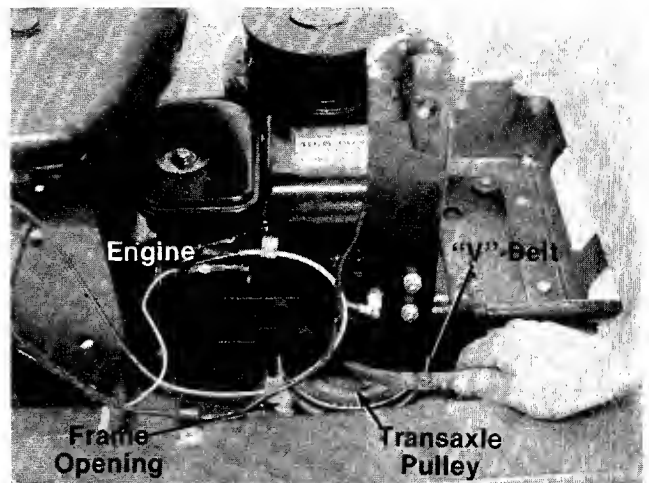

FIGURE 32.
8. Pull the drive belt out through the opening in the frame below the engine pulley and above the transaxle pulley. See figure 32.